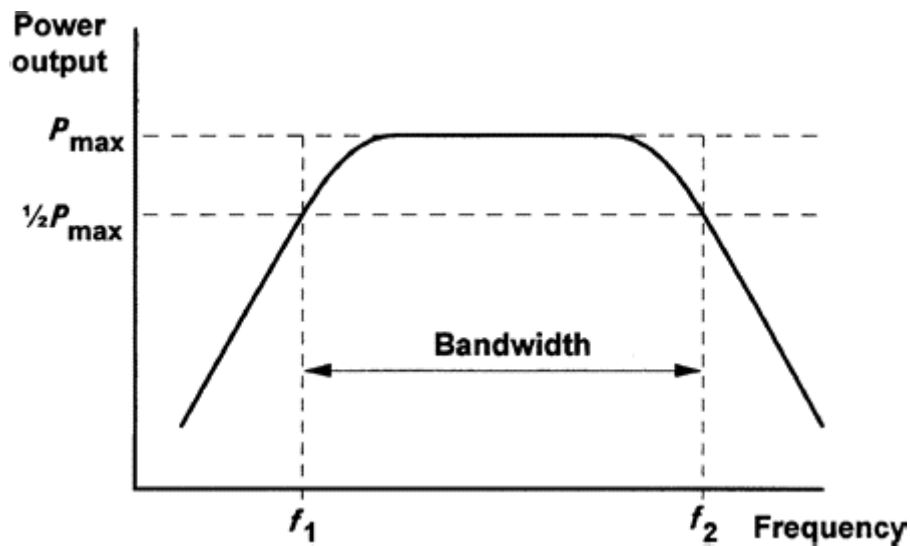

Figure 1.28 Frequency response and bandwidth (output power plotted against frequency)
- Figs 1.28 and 1.29, respectively, show how the bandwidth can be expressed in terms of either power or voltage (the cut-off frequencies,  $f_1$  and  $f_2$ , and bandwidth are identical).